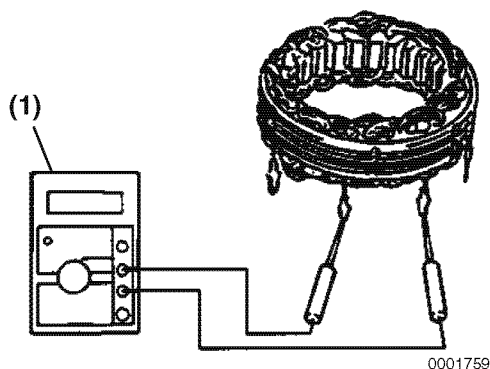

Figure 11-12
Measure the resistance value at each of the coil terminals using a multimeter (Figure 11-12, (1)).